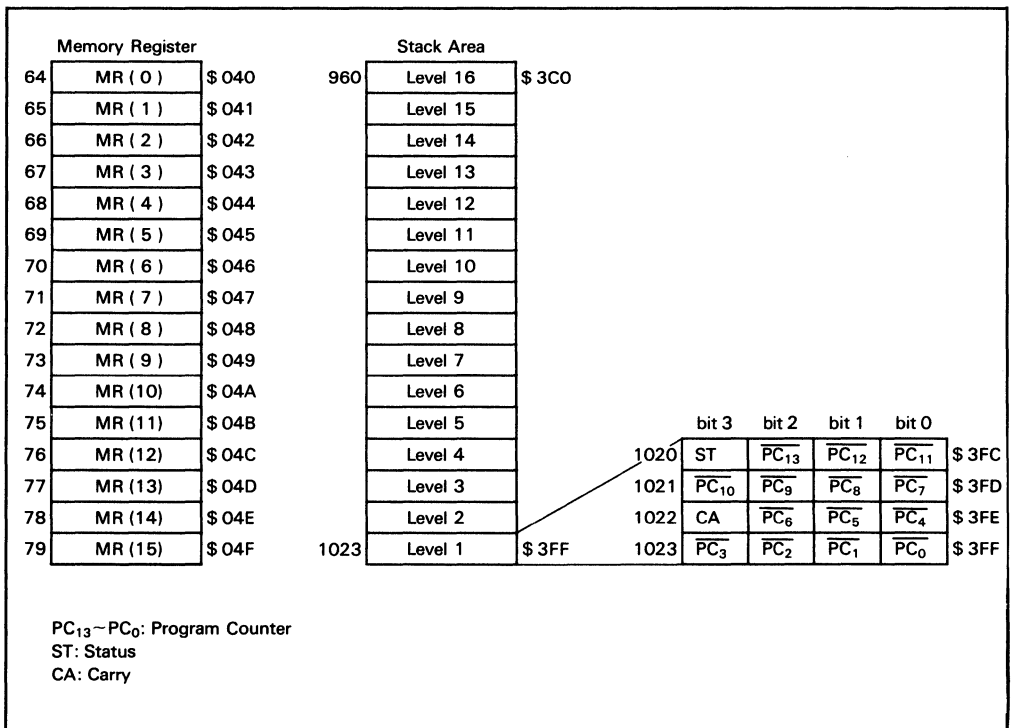

Figure 5. Configuration of Memory Register, Stack Area, and Stack Position
Data area (\$040-\$04F, \$070-\$21F): The memory register (MR), 16 addresses deep (\$040-\$04F), can be accessed by the LAMR and XMRA instructions (Figure 5).
Stack area (\$3C0-\$3FF): Used for saving the contents of the program counter (PC), status (ST), and carry (CA). This area can be used as a 16-nesting-level subroutine stack in which one level requires 4 nibbles. The data to be saved and save conditions are shown in Figure 5. The program counter is restored by the RTN and RTNI instructions. Status and carry are restored by the RTNI instruction only. Any space not used is available data storage.